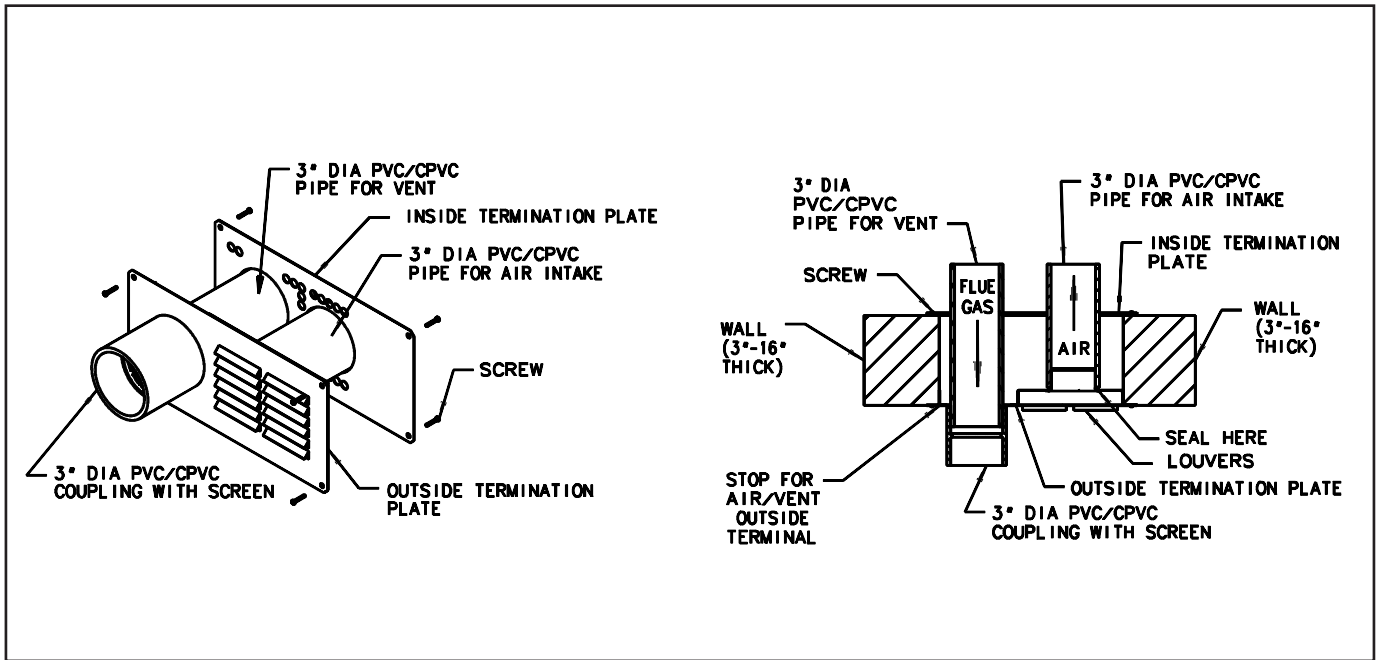

Figure 13a. Vent/Air intake termination; utilizing PVC/CPVC pipe for venting.
2. Refer to Figure 13a for installation details.